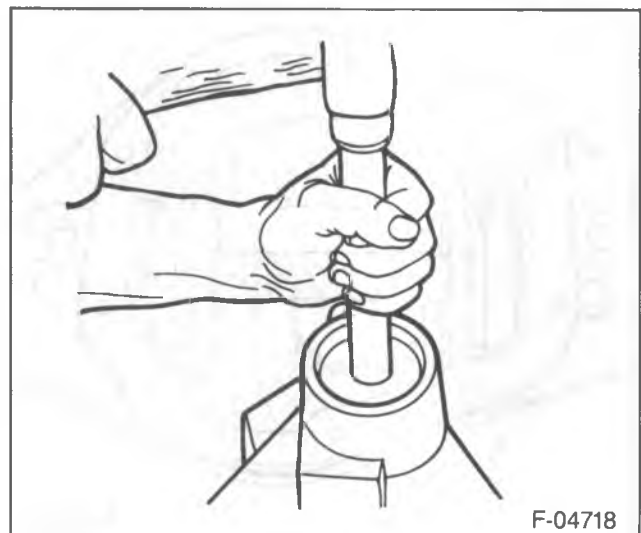

Figure 70—Installing the Pinion Front Cup
3. Drive the outer bearing cup into the axle assembly using J 7818 and J 8092 (figure 70).